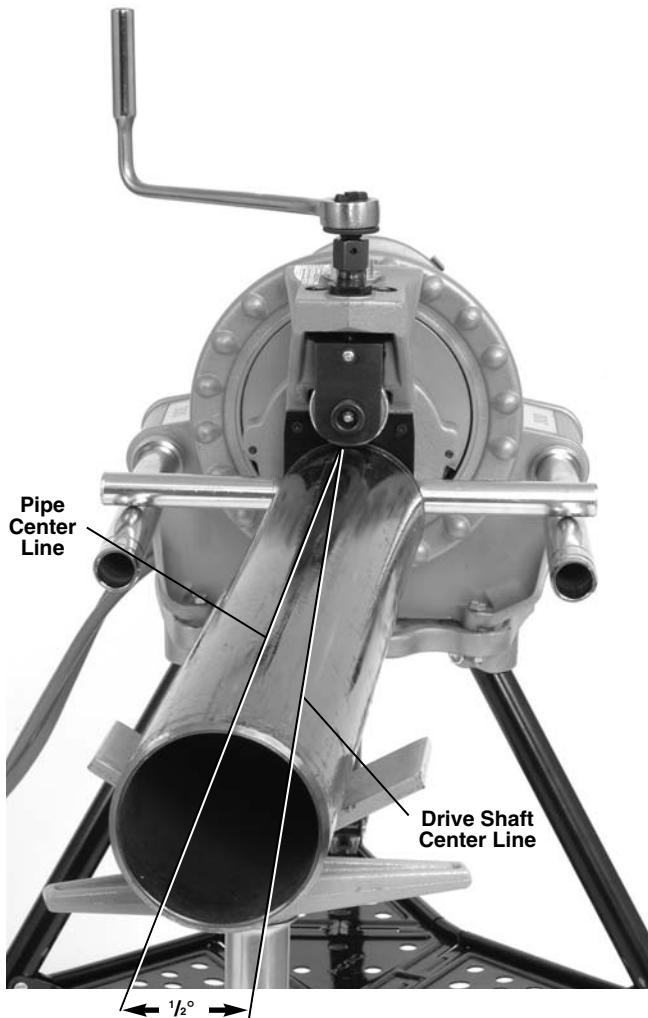

Figure 9 – Offsetting The Pipe $\frac{1}{2}^\circ$ Towards Operator (Exaggerated)
7. Slightly offset the pipe and pipe stands approximately $\frac{1}{2}$ degree (about 1" over at 10 feet from the roll groover) towards the operator. Proper alignment of the pipe and roll groover helps to insure proper tracking of the pipe while grooving. (See Figure 9.)
- Slightly increase the offset of the pipe towards the operator (increase from $\frac{1}{2}$ degree to 1 degree) (See *Figure 9*).